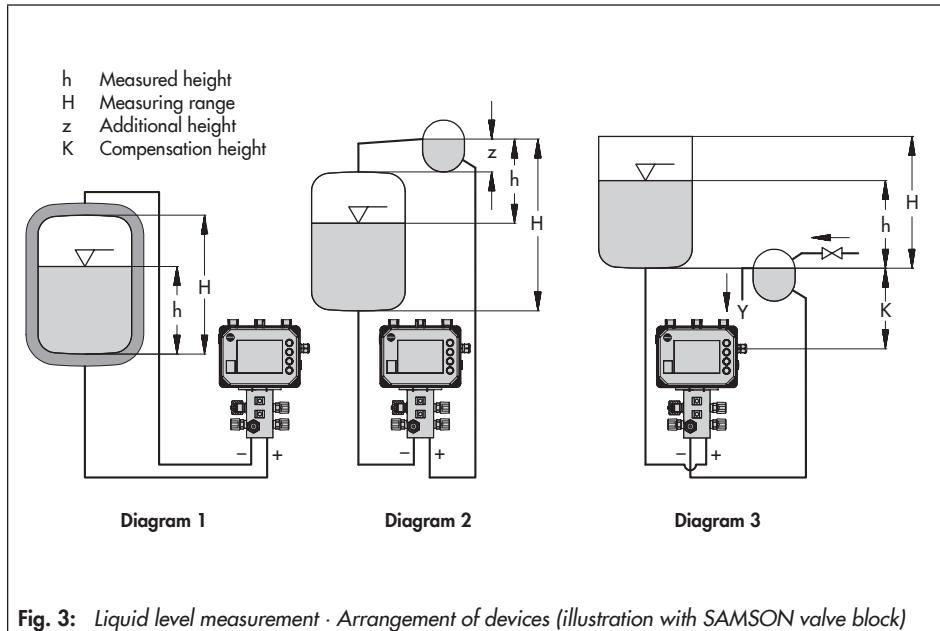

Fig. 3: Liquid level measurement · Arrangement of devices (illustration with SAMSON valve block)
- Fig. 3, diagram 1: measurement on cryogenic tanks
- Fig. 3, diagram 2: measurement on pressure vessels with condensing or non-condensing pressure reserve. The additional height z is included in the measurement. As a result, this height (z) must be as low as possible.
- Fig. 3, diagram 3: measurement on open vessels with the meter located in a low position. The compensation height K can be as large as required depending on the conditions in the plant.